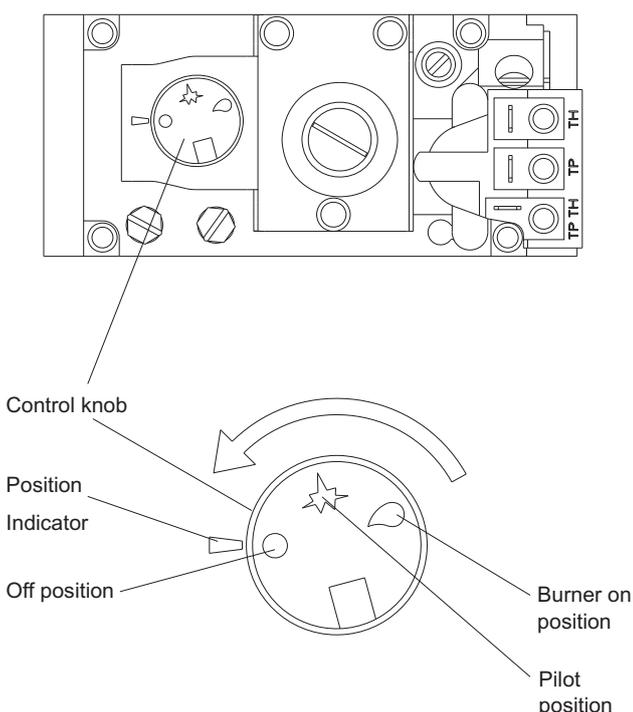

Figure 1
Situated at left side of MFC, the control knob is set correctly when appropriate symbol is alongside position indicator. (*See Figure 1*)
- a) Push control knob in and turn to pilot position. (*See Figure 1*)
- c) Turn control knob to BURNER ON position (*Figure 1*) and check burner lights.
Return control knob to pilot position (*Figure 1*). This will extinguish main burner whilst leaving pilot lit.
Push control knob in and turn to OFF position. (*Figure 1*)
When work is completed, return control knob to pilot position (See *Figure 1*) leaving pilot lit if required.